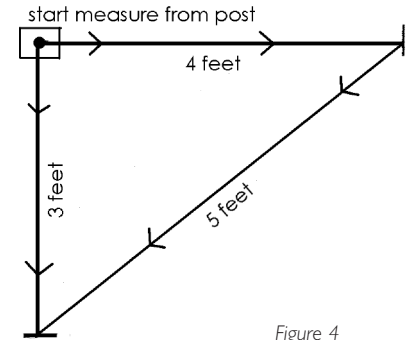

Figure 4
10. Layout First Short Side – From the second corner, measure across the short side 20 meters. Use the 3-4-5 formula (figure 4) to get the corner square. Place a stake at this point and place a corner post onto the stake. Now tie a string between the two stakes. This is your first short side.
11. Layout Second Short Side – From the first corner, measure across the short side 20 meters. Use the 3-4-5 formula (figure 4) to get the corner square. Place a stake at this point and place a corner post onto the stake. Now tie a string between the two stakes. This is your second short side.